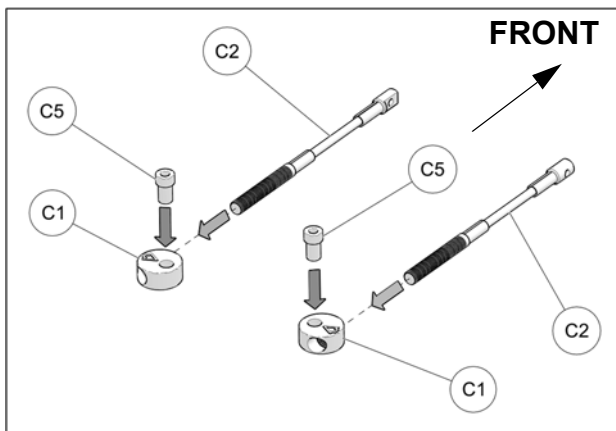

Fig. 22
13. Assemble steering limiter cables (C2), aluminum disks (C1) and step spacers (C5) together as shown on Fig. 22
14. Apply grease evenly all around step spacer bushing (C5) and in hole of aluminum disk (C1) when assembling these parts together. See Fig. 22